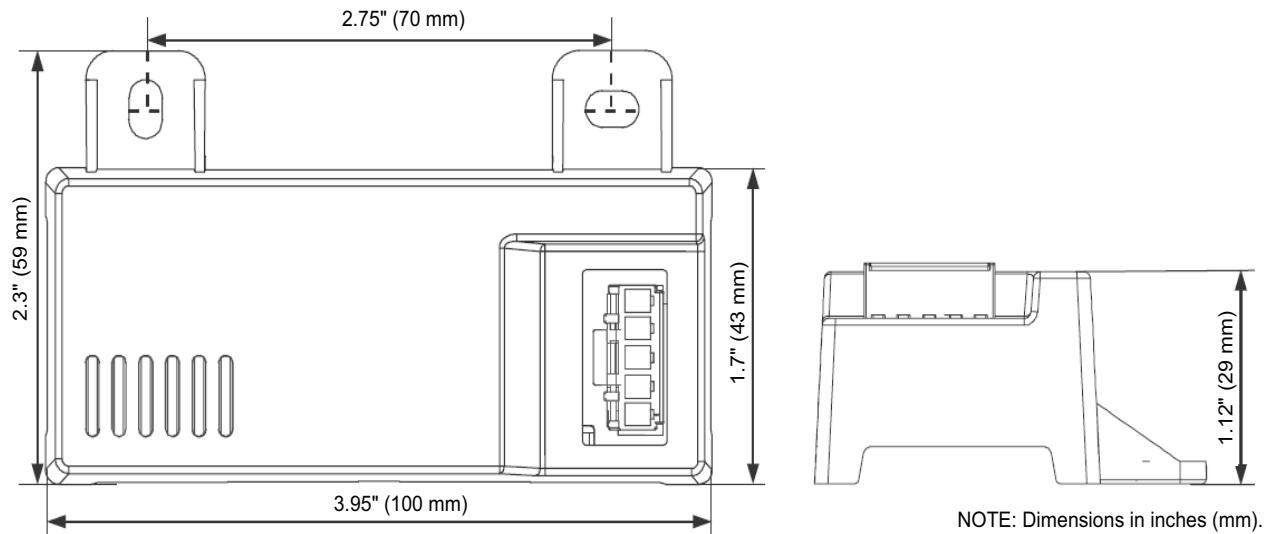
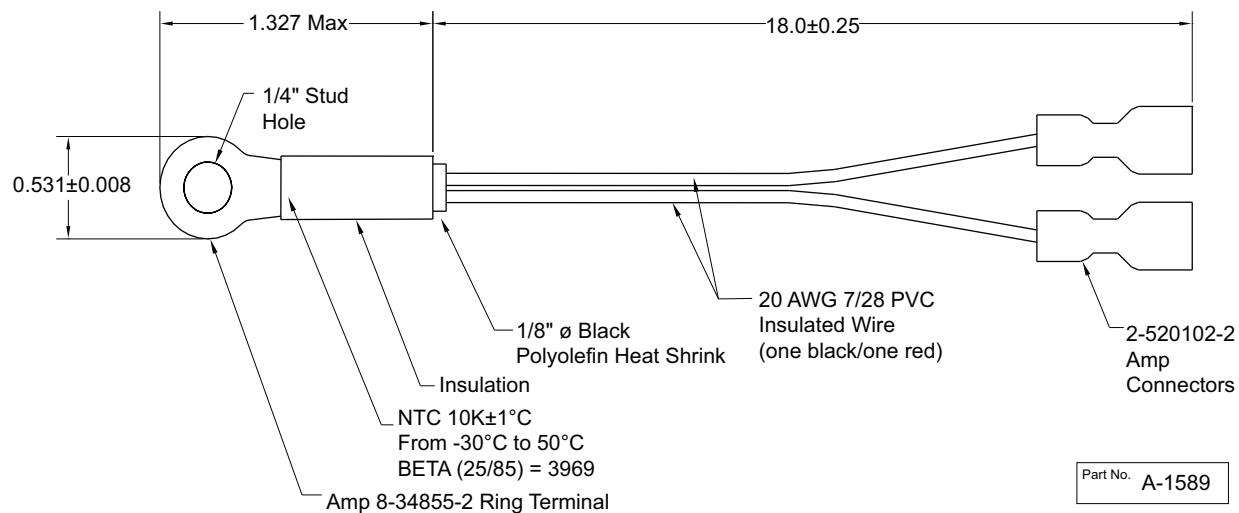
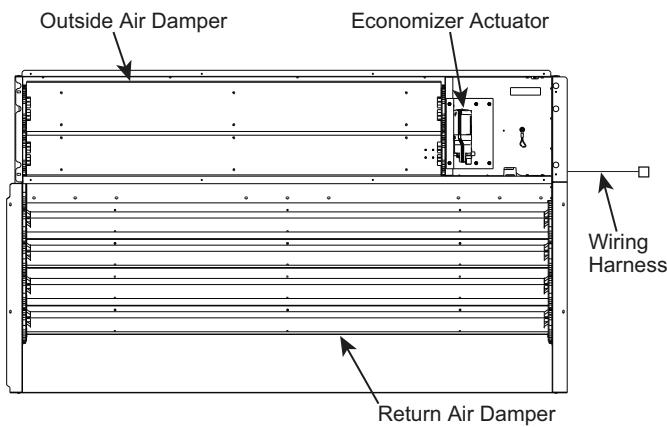

Fig. 83 — HH57LW001 Dimensional, Connection and Switching Information
Fig. 84 — HH79NZ039 Dry Bulb and Mixed Air Sensor Wiring
Fig. 85 — EconomizerONE System Component Locations
When using the HH57LW001 enthalpy sensor (see Fig. 83) for outside air changeover, the existing HH79NZ039 dry bulb sensor (see Fig. 84) must be removed. The enthalpy sensor will be mounted in the same location as the dry bulb sensor (see Fig. 85). When the enthalpy sensor's OA (Outside Air) temperature, enthalpy, and dew point are below their respective set points, outside air can be used for free cooling. When any of these are above their set point, free cooling will not be available. Enthalpy set points are configurable and create an enthalpy boundary according to the user's input. For additional details, see Fig. 86-87 and Table 29.
The optional enthalpy control sensor (P/N: HH57LW001) communicates with the POL224 economizer controller using the 5-wire harness, 48TC005213. The HH57LW001 sensor can be used as a single outside air enthalpy, a differential return enthalpy, or a differential return temperature sensor. Refer to the base unit control wiring diagrams found earlier in this book to wire the HH57LW001 enthalpy sensor for each option. See Fig. 83 and Table 31 on page 75 to locate the wiring terminals for each enthalpy control sensor.
Economizers are shipped standard with an HH79NZ039 outside air dry bulb sensor (refer to Fig. 84). System default setting (high temp limit) is 63°F (17°C) and has a range of 48°F to 80°F (9°C to 27°C). Sensor is factory installed on economizer.
If installing the optional HH57LW001 enthalpy sensor, the HH79NZ039 dry bulb outside air sensor must first be removed. Wire sensor to harness 48TC005213 and the (5) wires from the harness to the EconomizerONE harness in the return air chamber. Harness 48TC005213 has a 5-pin plug that connects directly to the HH57LW001 enthalpy sensor. Refer to the base unit control wiring diagrams earlier in this book for wiring connections. Refer to Fig. 83 and see Table 31.